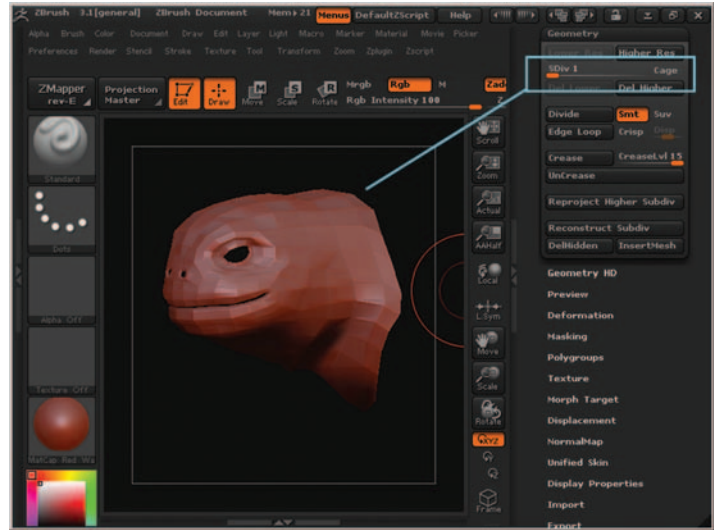

Figure 11.40 SDiv level set to 1, and mesh displayed at SDiv level 1. Note that the SDiv level 7 detail is not being displayed.
5. In the Geometry rollout you will see the words “SDiv 7” with an orange slider button below them. Click and drag the slider down to the lowest SDiv level (1). Your mesh will appear as it did when first imported from 3ds Max. Don’t worry; all of the sculpting information is still stored at the higher subdivision levels. Dropping the SDiv level to 1 is necessary for both mesh export and displacement map creation. Figure 11.40 shows the SDiv level set back to 1 and the mesh as it appears; notice that the detail is not present.